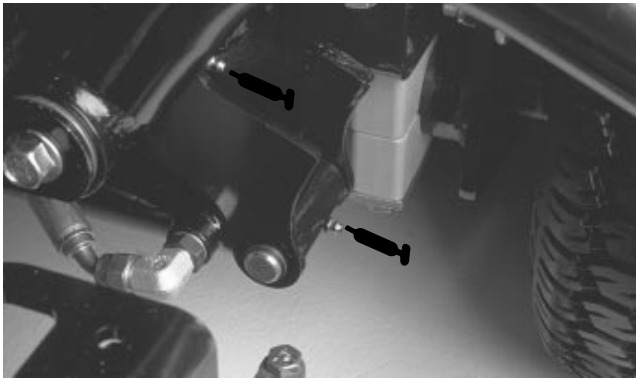
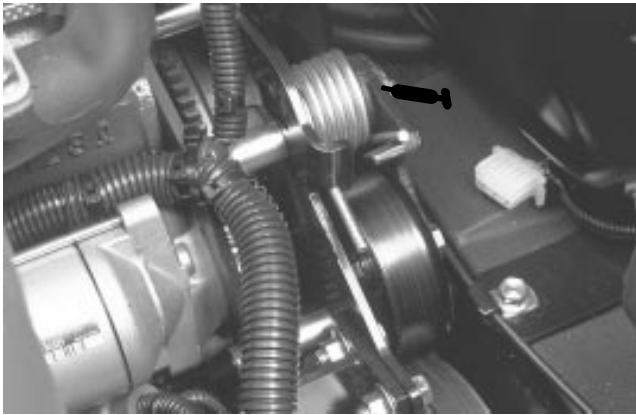

Figure 47
Figure 51
The traction unit bearings and bushings that must be lubricated are: Rear cutting unit pivot (Fig. 42), Front cutting unit pivot (Fig. 43), SideWinder cylinder ends (2) (Model 03201 only) (Fig. 44), Steering pivot (Fig. 45), Rear lift arm pivot and lift cylinder (2) (Fig. 46), Left front lift arm pivot and lift cylinder (2) (Fig. 47), Right front lift arm pivot and lift cylinder (2) (Fig. 48), Neutral adjust mechanism (Fig. 49), Mow/Transport slide (Fig. 50), Belt tension pivot (Fig. 51) Steering cylinder (Fig. 52).